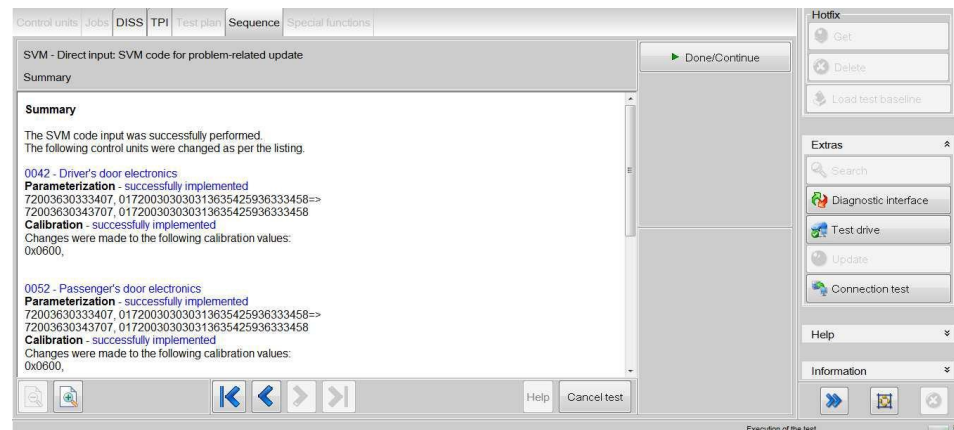

Figure 7
4) Once the update is complete the screen shown in Figure 7 will be evident